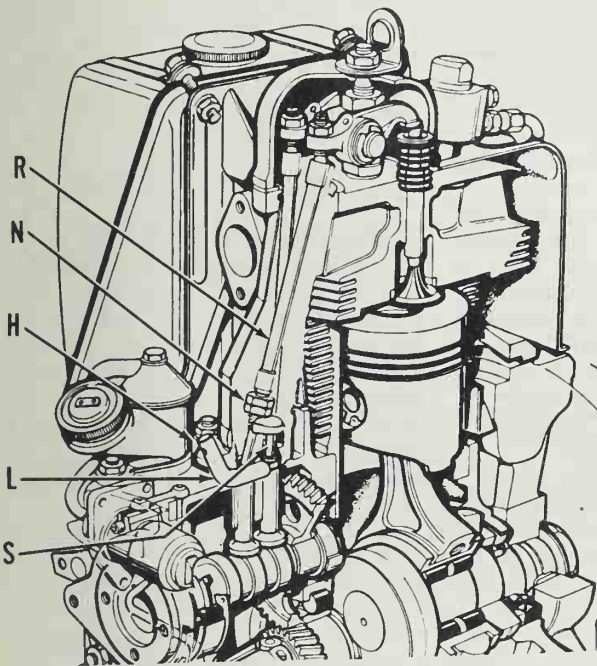

Fig. F2-4—View of compression release on single-cylinder models.
On single-cylinder models, the intake valve is held open by rotating compression release lever (L—Fig. F2-4) located in valve tappet housing (H). The compression release lever forces spindle (S) against nuts (N) on intake push rod thereby opening the intake valve. The intake valve should open 1.0 mm when actuated by compression release lever. Remove rocker arm shaft, extract intake push rod and turn push rod nuts (N)